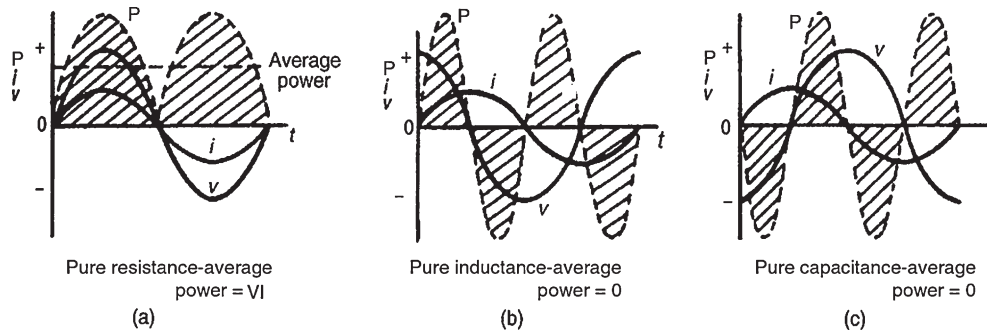

Figure 15.23
In Figs 15.23(a)–(c), the value of power at any instant is given by the product of the voltage and current at that instant, i.e. the instantaneous power,  $p = vi$ , as shown by the broken lines.
$P = VI = I^2 R = V^2 / R$  watts ( $V$  and  $I$  being r.m.s. values) See Fig. 15.23(a)
- (b) For a purely inductive a.c. circuit, the average power is zero. See Fig. 15.23(b)
- (c) For a purely capacitive a.c. circuit, the average power is zero. See Fig. 15.23(c)